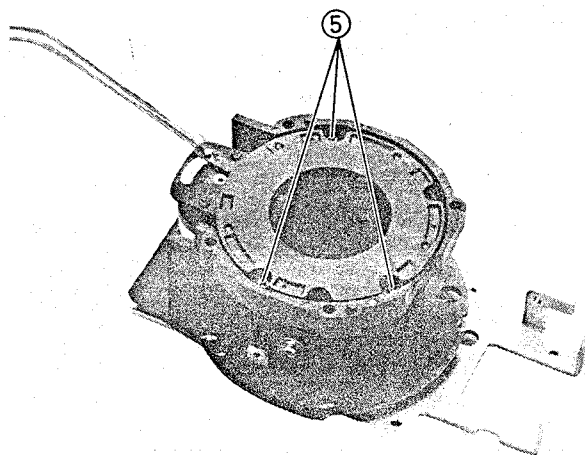

Fig. 2-132 Iris Block Removal
5. Remove three (3) screws holding the iris block, and remove it. (See Fig. 2-132)